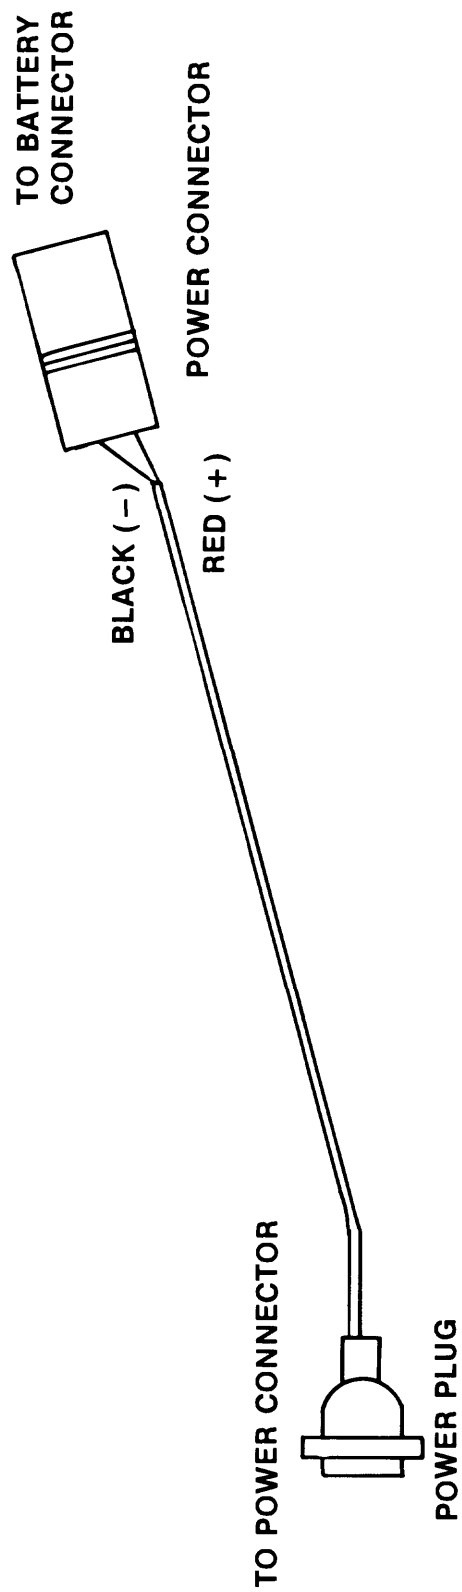

Figure 7.--Power-cable assembly.
2. Connect the power-cable assembly (fig. 7) to the Minimonitor.